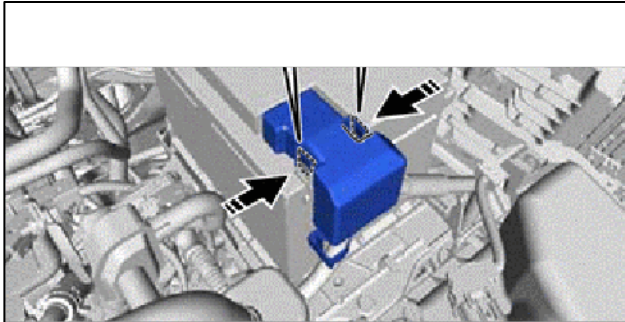

Fig. 22-4
- (h) Reattach the 2 claws of the Connector Cover on the Positive (+) Battery Terminal (Fig. 22-4).